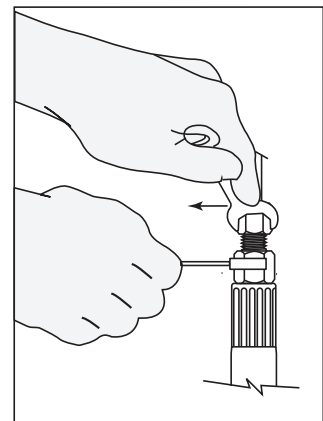

Fig. 7b
7.2 At the end of the water hammer absorber, connect the water supply tube, using the same type of fitting used on the water supply valve. Tighten the compression nut, without stripping, with two wrenches, one to hold the water hammer end, and one to turn the compression nut. Please see Fig. 7b.